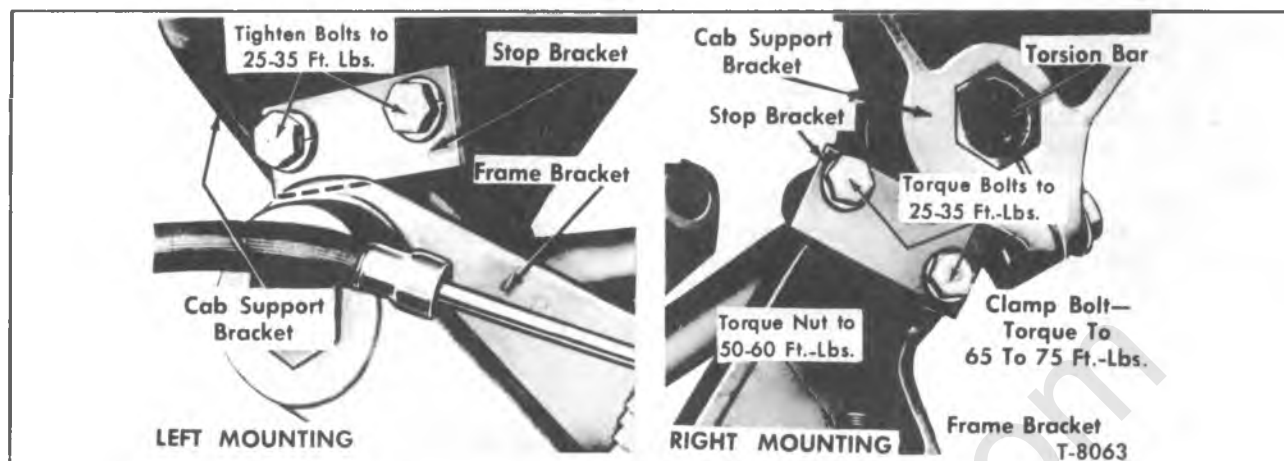

Figure 34—Cab Torsion Bar Stop Brackets Installed
moved) to torsion bar cab and frame brackets as shown in figure 34. Torque attaching bolts to 40 to 50 foot-pounds. Make sure stop brackets are installed as shown.
6. Tighten bolt which clamps cab right mounting bracket to end of torsion bar (fig. 34) to 65-75 foot-pounds.